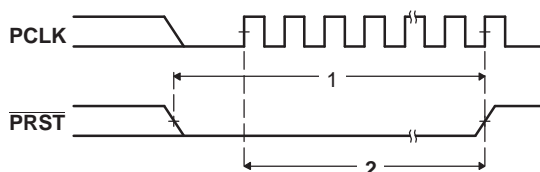

Figure 5-37. PCI Reset (\overline{PRST}) Timing
5.11.2 Timing Requirements for PCI Reset (see Figure 5-37)